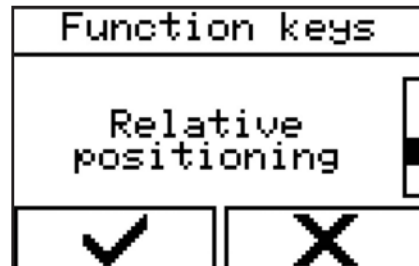

Figure 45 - Selecting a menu
1. Select the menu via 'Hand switch' → 'Premium functions' → 'Settings of function keys' → 'Relative positioning' (Figure 45).